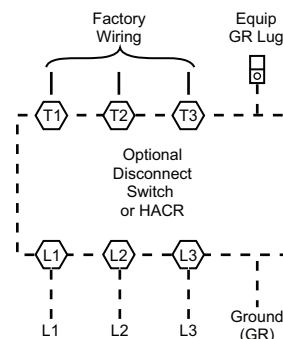

Fig. 35 — Power Wiring Connections
Size wire based on MCA (Minimum Circuit Amps) on the unit informative plate. See Fig. 35 for power wiring connections to the unit power terminal blocks and equipment ground. Maximum wire size is 2/0 AWG per pole.
3. Install power lines to terminal connections as shown in Fig. 35.